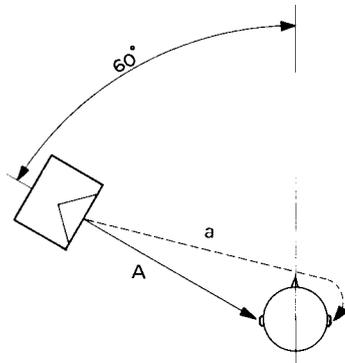

Fig. 5
Assuming that the speaker is located at 60° as in Fig. 5, the sound emitted from the left speaker reaches the left ear as shown by the solid line (A) and also enters the right ear as shown by the dotted line (a). These two signals let the listener sense the direction of the speaker as 60°.